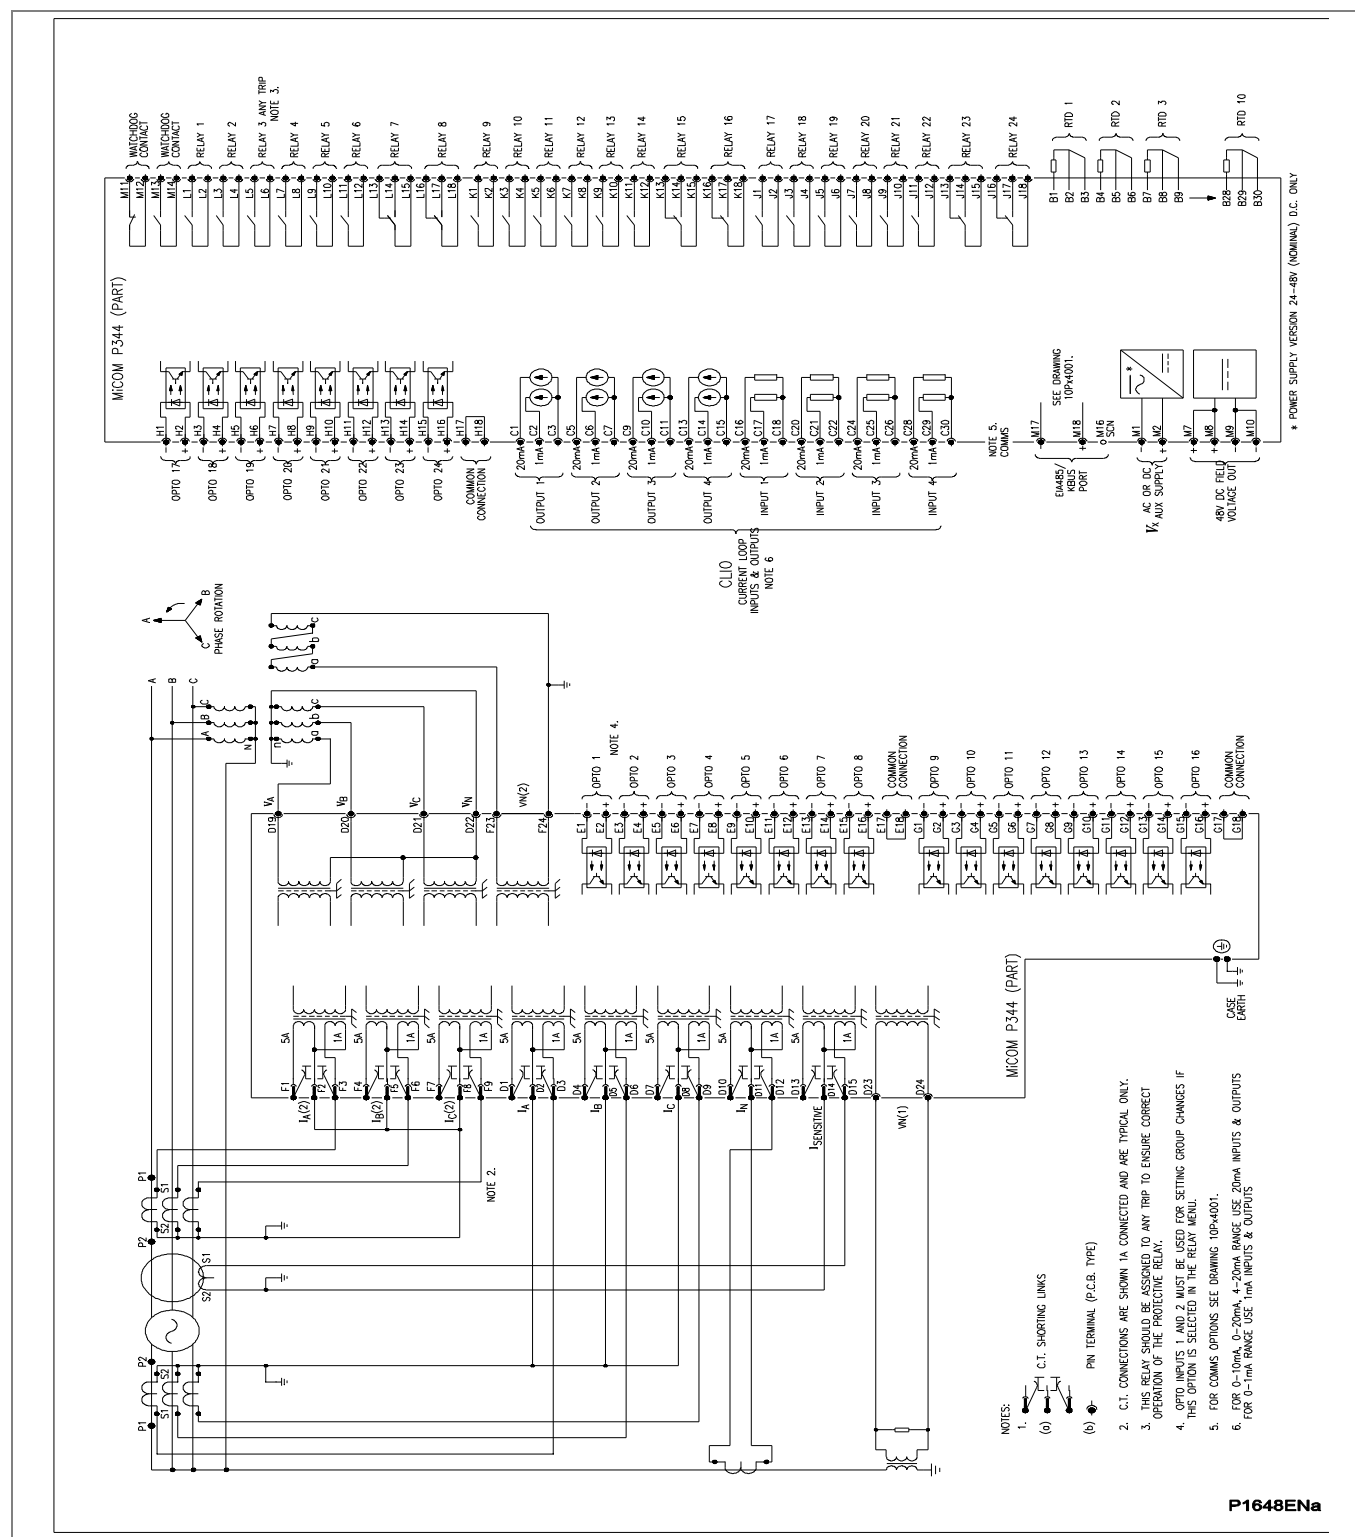

Figure 42 - P344 (80TE) with biased differential and zero sequence voltage interturn (24 I/P & 24 O/P & RTD's & CLIO)
- Figure 42 - P344 (80TE) with biased differential and zero sequence voltage interturn (24 I/P & 24 O/P & RTD's & CLIO)